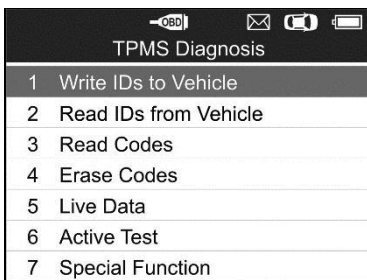

Figure 4.21
- 1) From **TPMS Diagnosis** Menu, use the **UP/DOWN** scroll button to select the **Read IDs from Vehicle**, and press the **Y** button (Figure 4.21).
- 1) From the TPMS Diagnosis Menu, use the **UP/DOWN** scroll button to select the **Read Codes**, and press the **Y** button (Figure 4.21).
- 1) From the TPMS Diagnosis Menu, use the **UP/DOWN** scroll button to select the **Erase Codes**, and press the **Y** button (Figure 4.21).
From the TPMS Diagnosis Menu, use the **UP/DOWN** scroll button to select **Live Data**, and press the **Y** button (Figure 4.21).